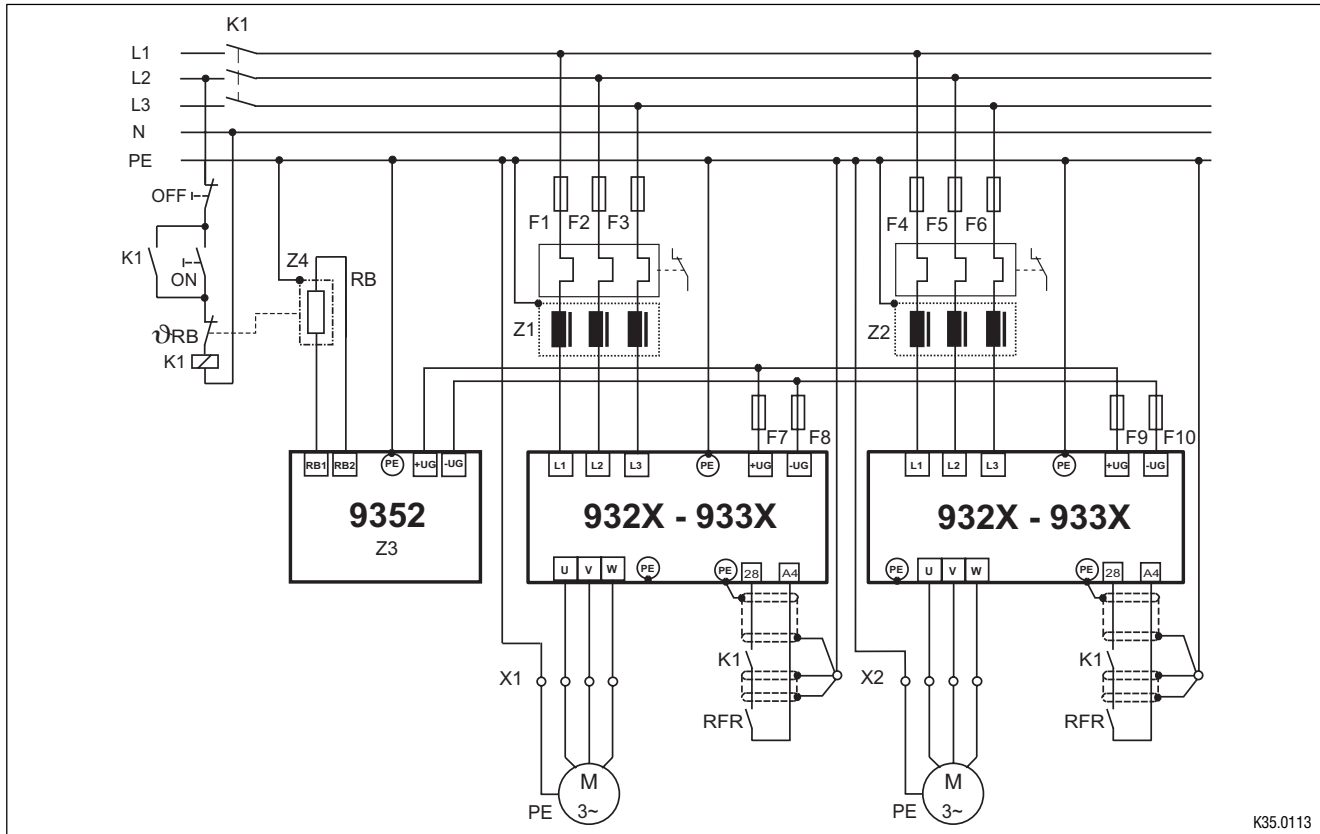

Fig. 4-9 Decentralized supply for DC-bus connection of several drives`
- Fig. 4-9, "Decentralized supply for DC-bus connection of several drives". (4-18)